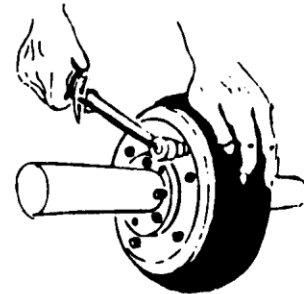

FIGURE 6
6. Hold split of the flexible element closed as shown in Fig. 6. Tighten (finger tight) one or two screws directly opposite the split. Using both hands knead the tire pulling it toward the split. Repeat the procedure on all remaining screws. Retighten each screw, in succession, with a torque wrench to the torque specified in Table 1 under the column entitled "FLANGE ASSEMBLY BOLT TORQUE".